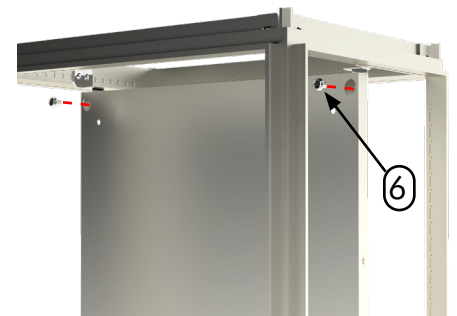

Figure 3
- Secure the subpanel using two M8 hex screws (Item 6) through the front circular cutouts into the flanged cage nuts (Item 7). See Figure 3 for details.
Insert the M8 hex screw through the circular subpanel cutout. Fasten the screw to the flanged cage nut attached to the subpanel bracket (Figure 3).